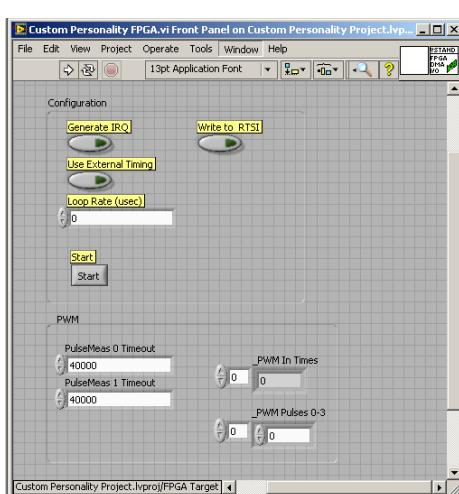

Figure 41: Create Labview FPGA target and XML - 10
9. The project menu will now appear and should look something like Figure 41. Select the LabVIEW VI as demonstrated our is called Custom Personality FPGA.vi